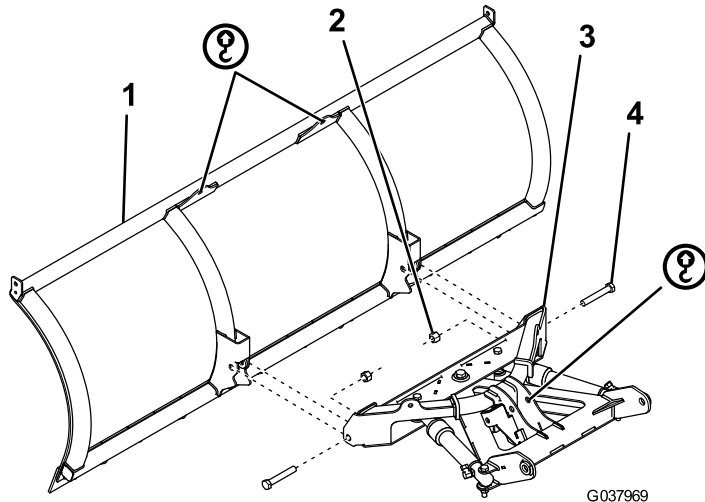

Figure 1
1. Attach the front of the push-frame assembly to the plow blade using 2 bolts (5/8 inch) and self-locking nuts (Figure 1). Torque the bolts to 153 N·m (113 ft-lb).